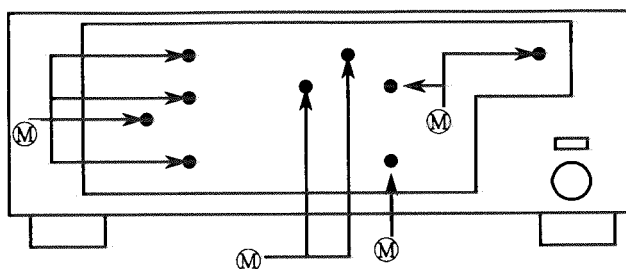

FIG.5 Front panel ass'y rear side
4. Remove 9 screws (M).(FIG.5)